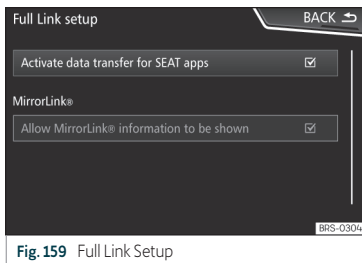

Fig. 159 Full Link Setup
- In the main menu for the Full Link setup, select **Activate data transfer for SEAT apps** >>> Fig. 159: